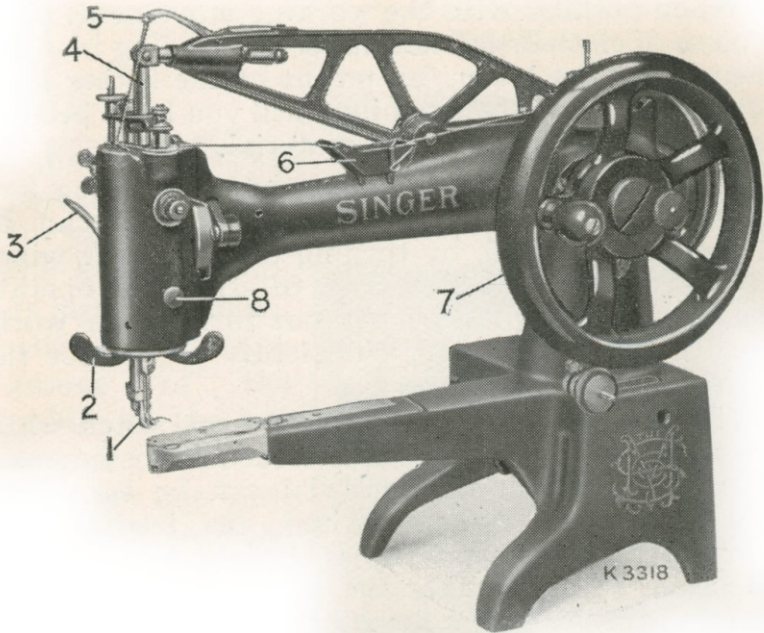
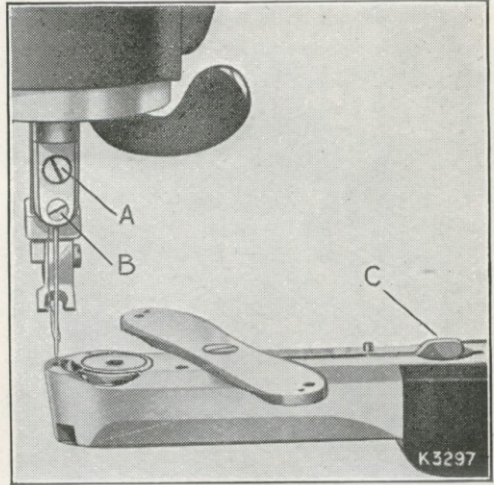
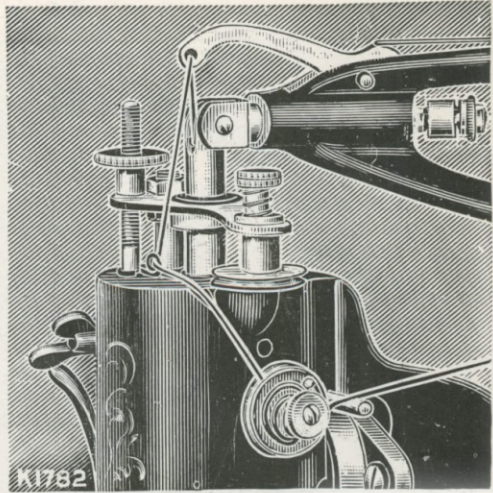

Fig. 1.
Fig. 2.
Fig. 4.
(See Fig. 1.)
The feeding foot rises between each stitch while the needle is in the material, the needle serving as a pivot upon which the material can be turned in any direction. When desired, the feeding foot may be fixed to work in a straight line, in any direction, by tightening the knurled set screw (8, Fig. 1) in front of the machine head. **Never turn the work or alter the direction of the feed while the foot is pressing on the material, as this may cause missed stitches and damage the surface of the work.**
(See Fig. 2.)
Raise the needle bar (4, Fig. 1) to its highest point, loosen the screw (B) and insert the shank of the needle up into the needle clamp, as far as it will go, with the long groove of the needle to the left and its eye directly in line with the arm of the machine. The needle, when correctly set, should, in its descent, pass through the hole in the needle plate without touching and close to the
(6, Fig. 1) on the top of the arm and, after passing the thread under the wire guide, press it back into position ; then pass the thread at the back of the pin, which is near the tension discs on the top of the machine head, from back to front and right to left
between the tension discs, into the wire thread eyelet, and up and from front to back through the hole in the end of the take-up lever (5, Fig. 1). Draw about 10 inches of thread and insert the end into the slit in the end of the threading wire supplied with the machine ; then
pass it from the back of the lever (5, Fig. 1) down through the hole in the centre of the needle bar, and from left to right through the eye of the needle, leaving an end of thread 3 or 4 inches long with which to commence sewing.
(See Fig. 4.)
Raise the wire guide in the oil cup (6, Fig. 1) on the top of the arm and, after passing the thread under the wire guide, press it back into position; then pass the thread over the pin near the tension discs in front of the arm (see Fig. 4), from right to left under and between the tension discs, up into the wire eyelet on
top of the arm of the machine and from front to back through the hole in the end of the take-up lever (5, Fig. 1). Draw about 10 inches of thread and insert the end into the slit in the end of the threading wire supplied with the machine; pass it from the back of the lever (5, Fig. 1) down through the hole in the centre of the needle bar, and from left to right through the eye of the needle, leaving an end of thread 3 or 4 inches long with which to commence sewing.
Raise the needle bar to its highest point and lift the feeding foot (1, Fig. 1) by means of the lifting lever (3, Fig. 1). Press down the lever (C Fig. 2) and swing the needle plate round, as shown in illustration. Turn the balance wheel until the point of the shuttle is nearest you, then lift out the shuttle with the thumb and fore-finger; turn it over and the bobbin will drop out.
Raise the needle bar to its highest point by turning the balance wheel, lift the feeding foot by means of the lifting lever (3, Fig. 1), and draw the material backward about 3 inches; then cut the threads close to the work. Leave both ends of thread under the feeding foot.
The travel of the take-up lever (5, Fig. 1) is regulated by means of the knurled nut (A) the barrel of which is marked with the figures 0 to 4. This indicator provides a useful guide to the operator in arranging the take-up movement most suitable for the material and thread being used. In the case of thin materials such as Kid or Box Calf, turn the knurled nut (A) until the zero mark is opposite the small plunger. Other adjustments can be made in steps by turning the knurled nut (A) to suit all thicknesses of materials and thread within the capacity of the machine.